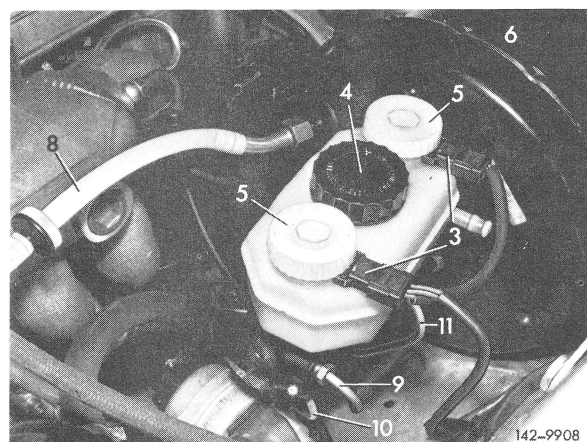

Fig. 3
**Note:** On vehicles starting in the middle of 1974, the connections for the brake lines on tandem master cylinder are at the left (Fig. 3).